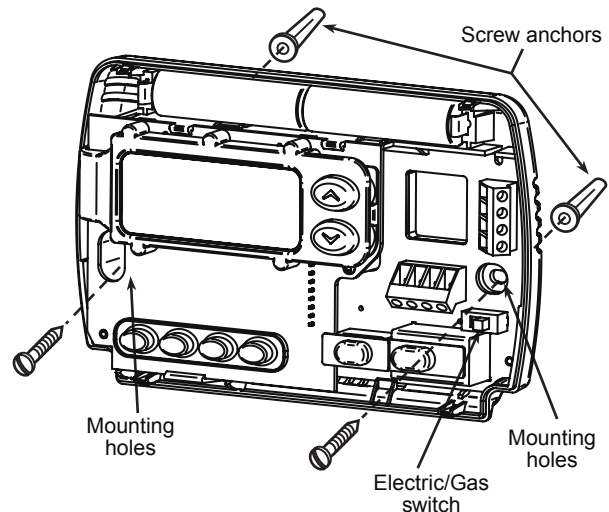

Figure 1. Thermostat Base
This thermostat is configured from the factory to operate a heat/cool, fossil fuel (gas, oil, etc.), forced air system. It is configured correctly for any system that DOES NOT require the thermostat to energize the fan on a call for heat. If your system is an electric heat or heat-pump system that REQUIRES the thermostat to turn on the fan on a call for heat, locate the **ELECTRIC/GAS switch** on the back of the thermostat (see fig. 1) and switch it to the **ELECTRIC** position. This will allow the thermostat to energize the fan immediately on a call for heat. If you are unsure if the heating/cooling system requires the thermostat to control the fan, contact a qualified heating and air conditioning service person.
5. Fasten base loosely to wall, as shown in fig 1, using two mounting screws. Place a level against bottom of base, adjust until level, and then tighten screws. (Leveling is for appearance only and will not affect thermostat operation.) If you are using existing mounting holes, or if holes drilled are too large and do not allow you to tighten base snugly, use plastic screw anchors to secure subbase.
If "BATT" is displayed, the batteries are low and should be replaced. For best results, replace all batteries with new premium brand alkaline batteries such as Duracell® or Energizer®. To replace batteries, install the batteries along the top of the base (see Fig. 1). The batteries must be installed with the positive (+) end to the left.